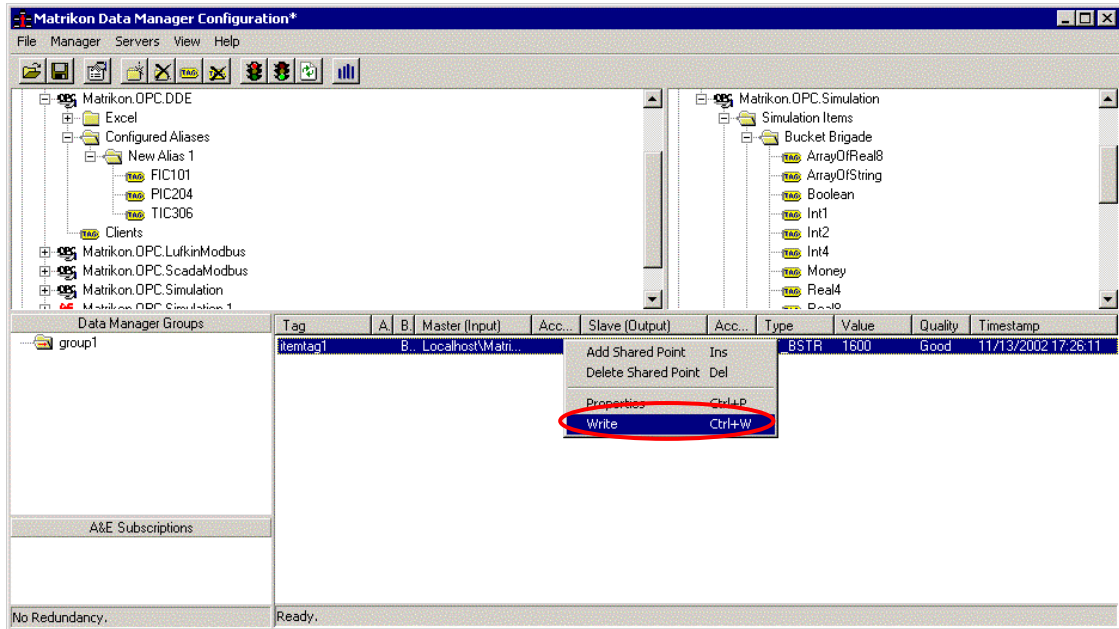

Figure 5-13. Select Write from the shortcut menu.
1. Right-click the tag you added to the lower pane of the *Data Manager* and select **Write** from the shortcut menu that is displayed (Figure 5-13).